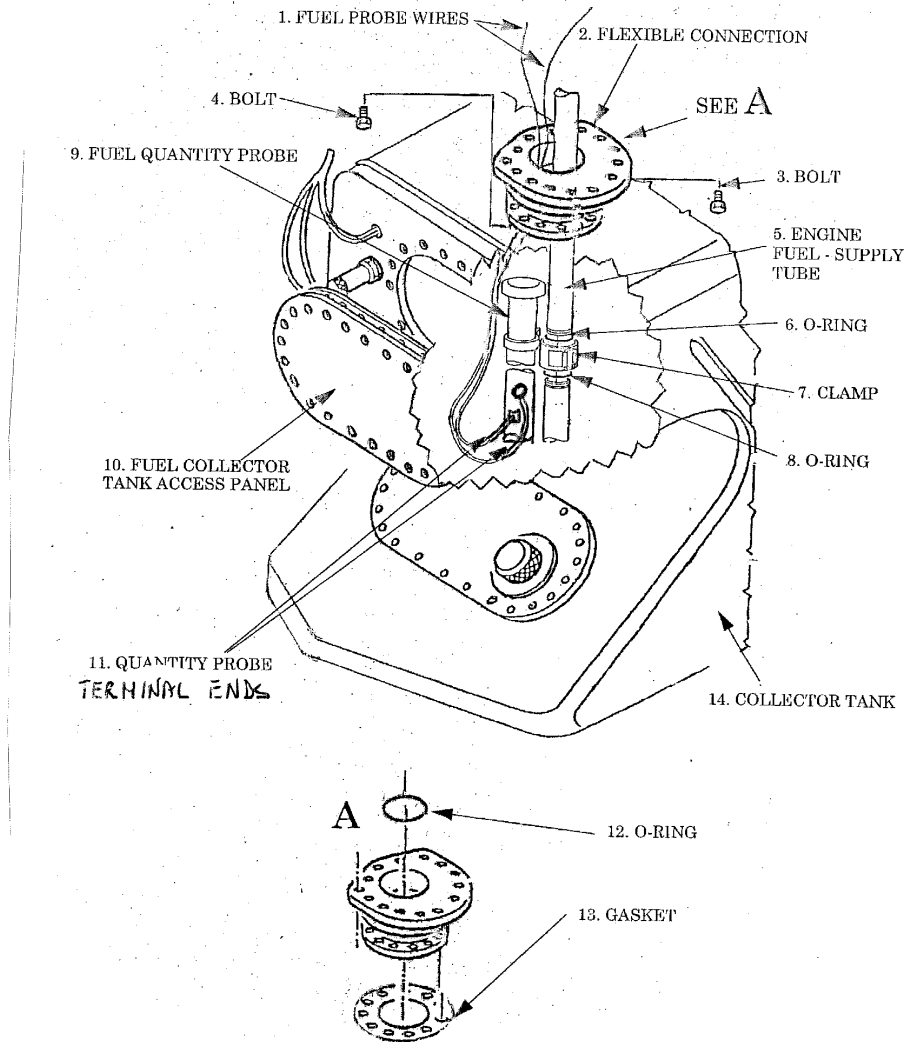

Fig. 204 - LH Collector Tank / Wing Flexible Connection - Removal/Installation
7. LH Collector Tank / Wing Flexible Connection - Removal (Ref. Fig. 204)
8. LH Collector Tank / Wing Flexible Connection - Installation (Ref. Fig. 204)